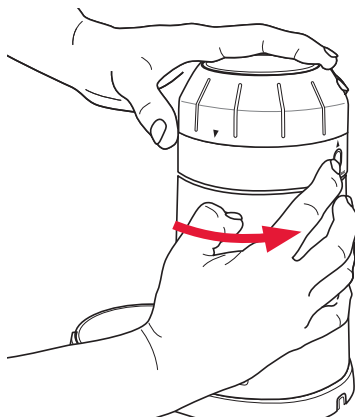

Figure 9
2. To remove the top burr turn the grind adjustment collar in an anti-clockwise direction until it stops, see Figure 9.